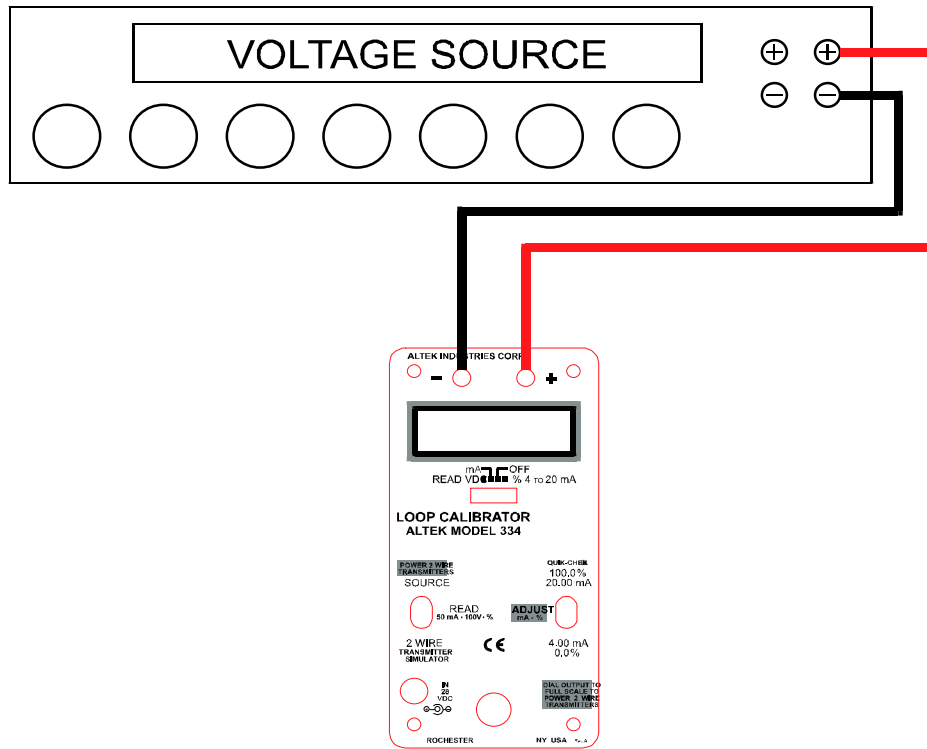

FIGURE 3
1. Connect the UUT to the Precision DC Voltage Source as shown in Figure 3.
1. Connect the UUT to a Voltage Source as shown in Figure 3.